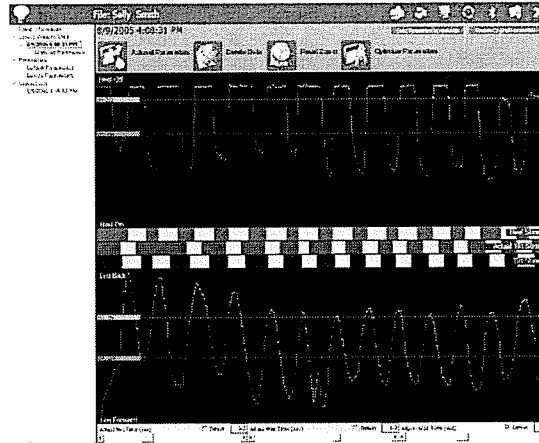

Figure 26 – Adjusting the 'On' and 'Off' thresholds.
1. The 'On' and 'Off' thresholds of the Heel and Tilt Sensors trigger the timing of the initiation and termination of the stimuli (Figure 26).